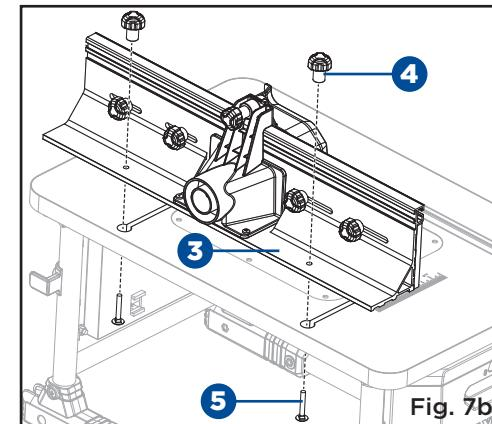

Fig. 7b
- Attach the bit gurad (2) to the fence assembly (3) and tighten the bit guard lock knob (1). (Fig. 7b)
- Loosen the fence lock knobs (4) and remove the fence lock knobs (4) and fence bolts (5) from the fence assembly (3).
- Slide fence bolts (5) through the slot in the router table and through the slots in the fence assembly (3).
- Install the fence lock knobs (4) over the fence lock bolts (5).
- Tighten the fence lock knobs (4).